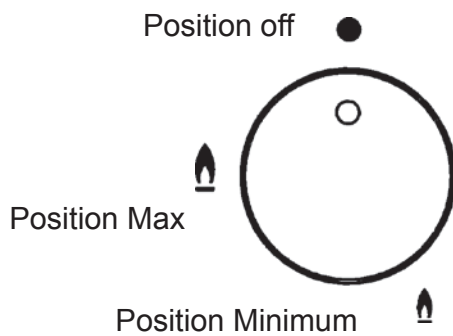

FIG. 3
- burners fitted with safety cut-off devices can only be lit when the knob is in the “Maximum” position (**big flame fig. 3**)
- When boiling point is reached, turn the knob to the "Minimum" position (**small flame fig. 3**)